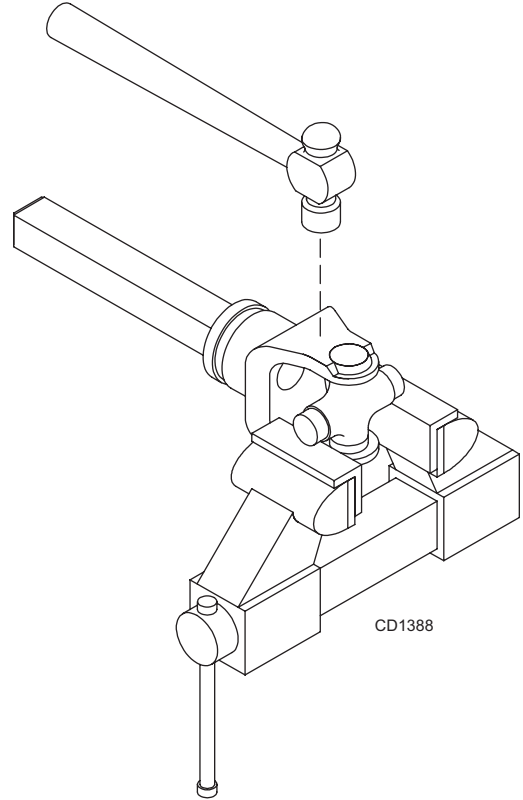

Figure 17
4. Place universal cross in vise as shown in Figure 17 and tap on yoke to remove cup. Repeat step three for final removal. Drive remaining cup out with a drift and hammer.